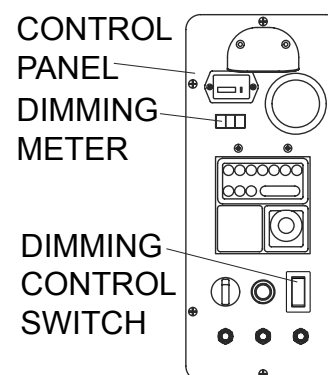

Figure 16. Dimming the Lamps
1. Press the lower part of the dimming control switch to dim the lamps. The lamps can be dimmed from 100% to 65% brightness. The dimming meter will indicate how dim the lamps are (Figure 16).